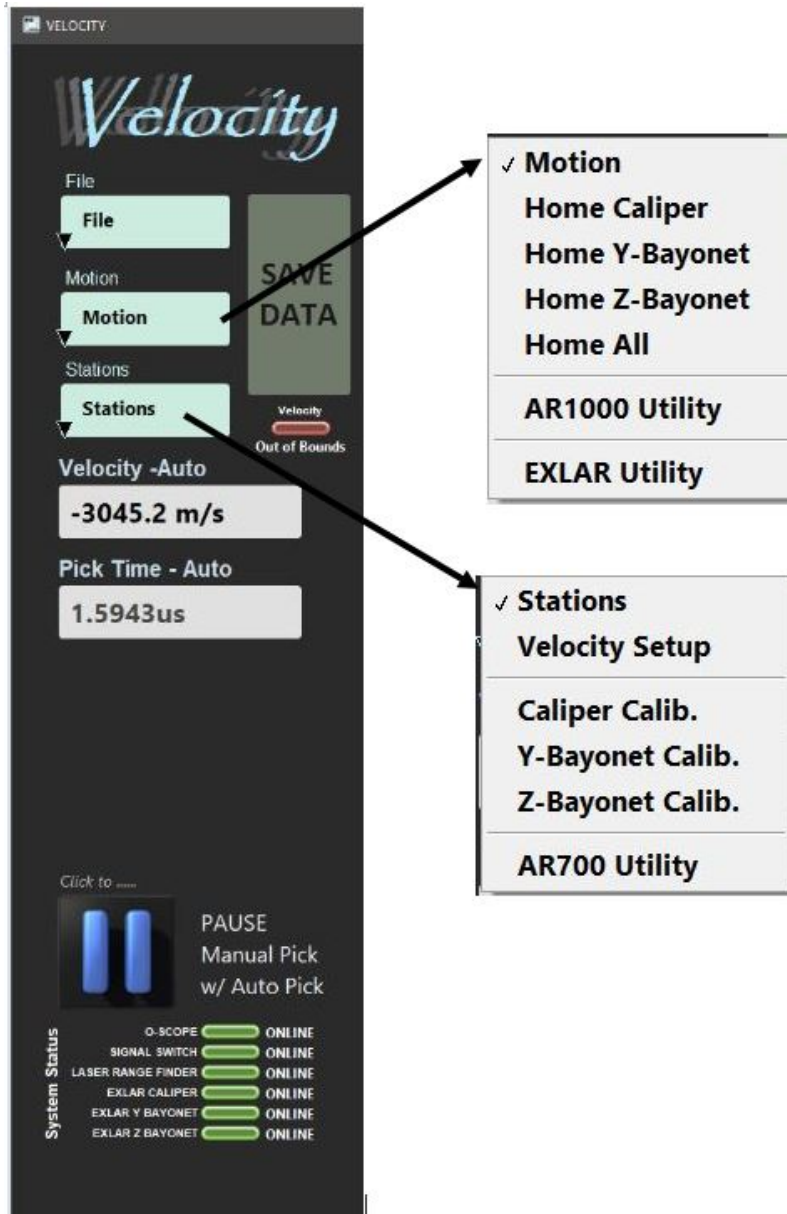
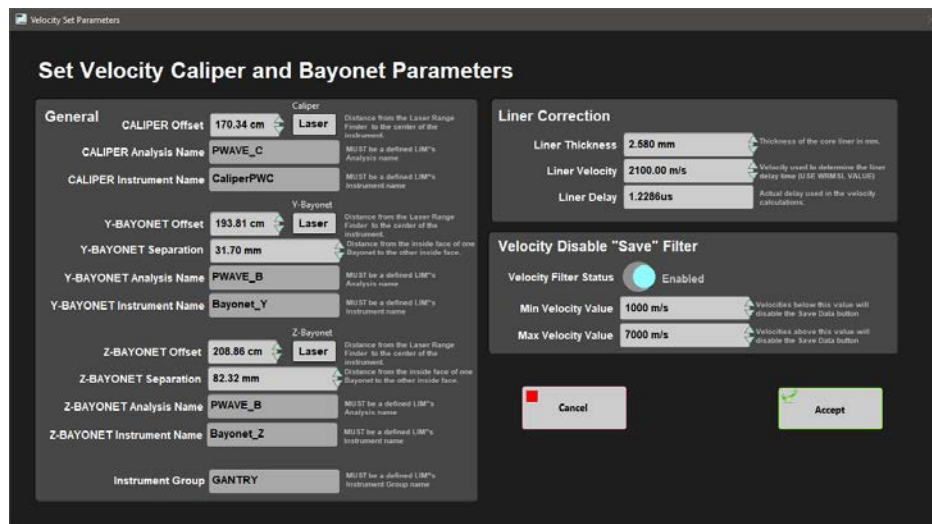
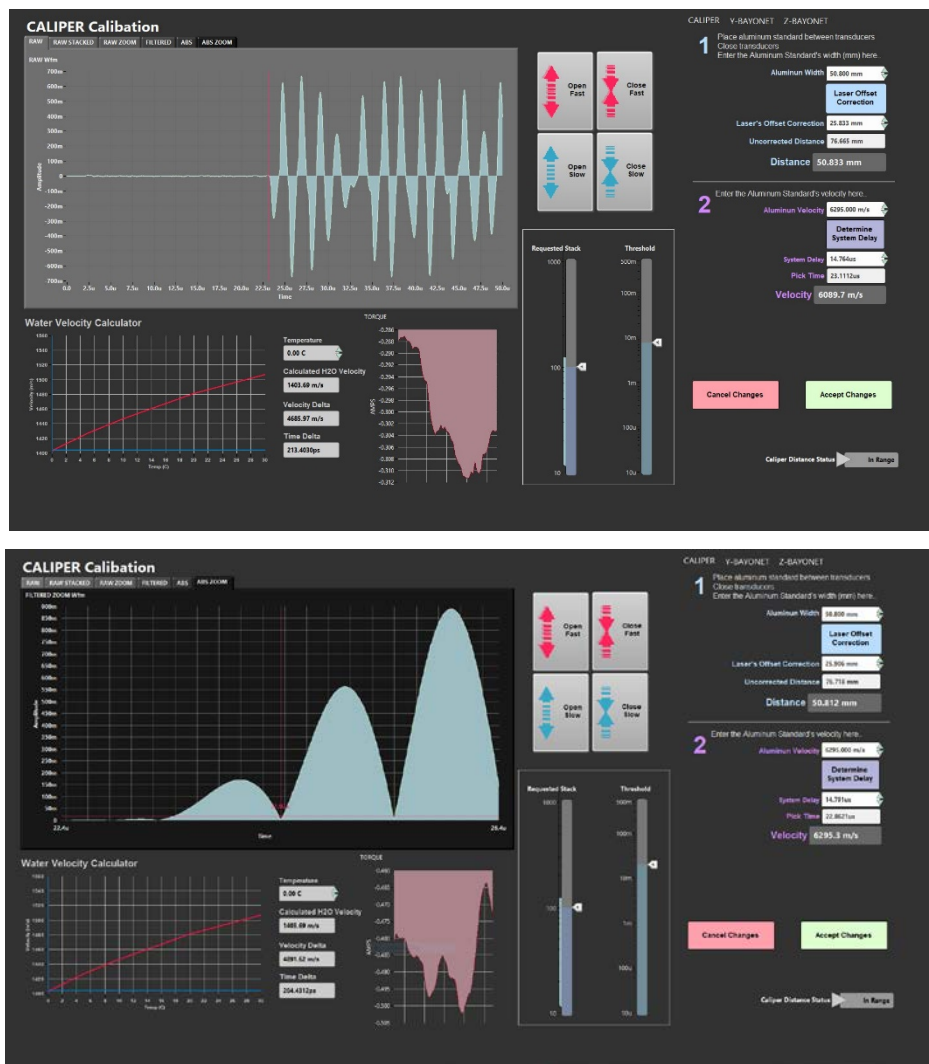

Figure 8. IMS Control Panel Drop Down Menus
Figure 9. Velocity Parameters Window
Figure 10. Caliper Calibration Windows. Raw data graph tab (left) and the ABS zoom graph tab (right)
The three buttons on the left side of the IMS-UI window provide access to utilities/editors via dropdown menus as shown in **Figure 8**.
To open the Velocity instrument setup window (**Figure 9**), select *Stations > Velocity Setup* from the IMS panel menu (**Figure 8**).
1. Ensure the values in the window are set as shown in Figure 9.
To open the Caliper calibration window (**Figure 10**), select *Stations > Caliper Calib.* from the IMS panel menu (**Figure 8**).
7. Verify the software is picking the first arrival wave in the *Raw Stacked* graph tab. You can adjust the threshold scale bar to achieve the proper pick location (*Figure 10*). Observe the graph to verify the system is getting a clean signal. If you are not getting a clean signal, follow the steps in the trouble shooting section of this guide. Also, verify the auto-pick location in the Absolute Value tab (ABS or ABS Zoom). This pick should be at the zero crossing after the first significant wave form above noise (*Figure 10*).
To open the Bayonet calibration window (**Figure 11**), select *Stations > Y-Bayonet Calib. or Z-Bayonet Calib.* from the IMS panel menu (**Figure 8**).
4. Verify the bayonet separation value. If the value is incorrect, return to the Velocity Setup window (**Figure 9**) to edit the value.
5. Verify the automatic velocity pick in the Raw Stacked graph tab (**Figure 10**). You can adjust the threshold scale bar to achieve the proper pick location as long as the signal is not too noisy. The user may want to verify the auto-pick location in the Absolute Value tab (ABS or ABS Zoom). This pick should be at the zero crossing after the first wave form.
5. Verify the automatic velocity pick in the Raw Stacked graph tab (**Figure 10**). You can adjust the threshold scale bar to achieve the proper pick location, or pause the system to do a manual pick. The user may want to verify the auto-pick location in the Absolute Value tab (ABS or ABS Zoom). This pick should be at the zero crossing after the first wave form.